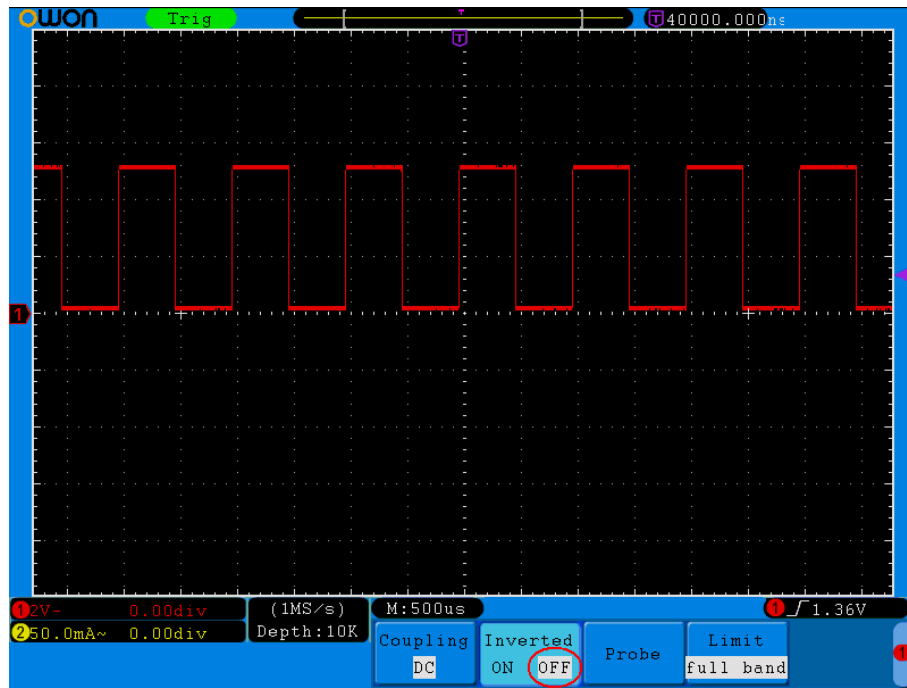

Figure 5-5 Original Waveform
- (3) Press the **H2** menu selection button again and select **OFF** for **Inverted** item. The waveform goes back to its original one as it is shown in *Figure 5-5*.